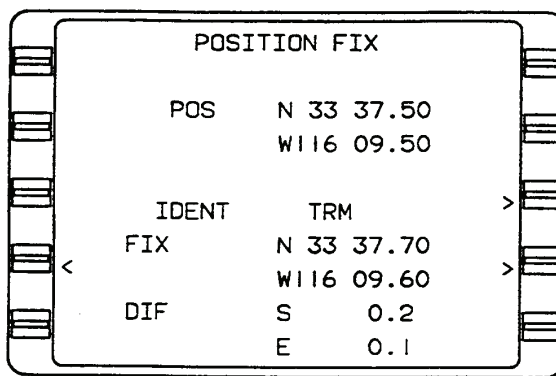

Figure 3A-48. Position Fix Page
(2) *Position Fix Page*. The Position Fix page is accessed by pressing the **HOLD** key while the cursor is off the page. Refer to Figure 3A-48.